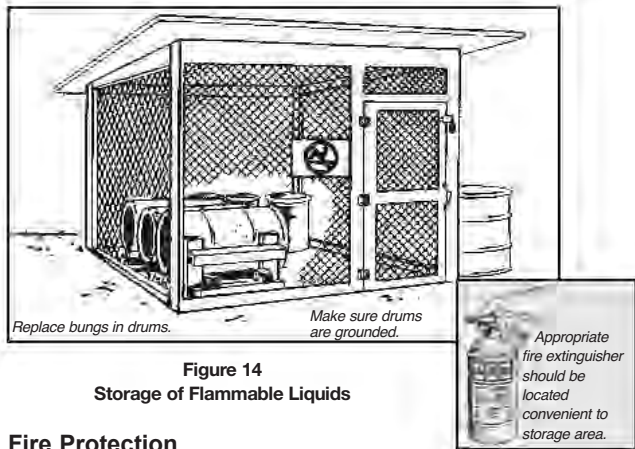

Figure 14
- See Figure 14 for pointers on safe storage.